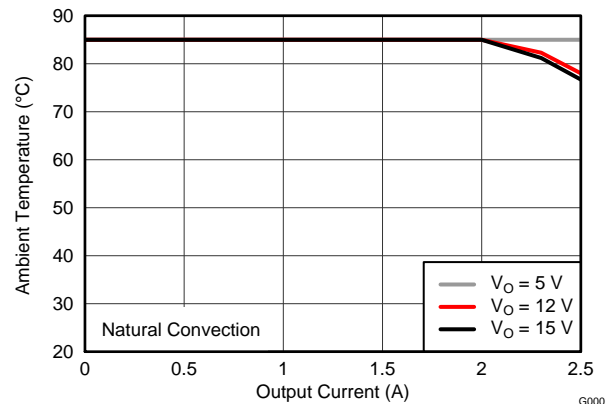

Figure 17. Safe Operating Area
- (3) The temperature derating curves represent the conditions at which internal components are at or below the manufacturer's maximum operating temperatures. Derating limits apply to devices soldered directly to a 100 mm x 100 mm double-sided PCB with 1 oz. copper. Applies to Figure 17.